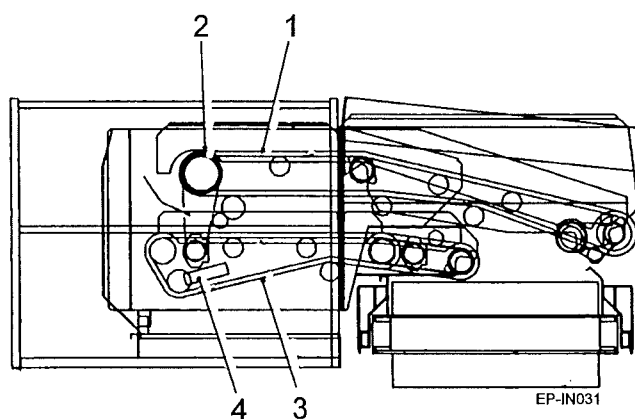

Fig 20
Adjustment of the top belt (item 1, figure 20) is by adjusting the rear rollers (Item 2, figure 20). Adjustment of the bottom web (item 3, figure 20) is by the web adjusters (item 4, figure 20) on each side of the table. Ensure that the webs are tensioned evenly on both sides of the table. The drive chain is fitted on the LH side of the table and is tensioned by an idler sprocket. Adjust the chain tension by loosening the clamp bolt and sliding the idler in its slot.